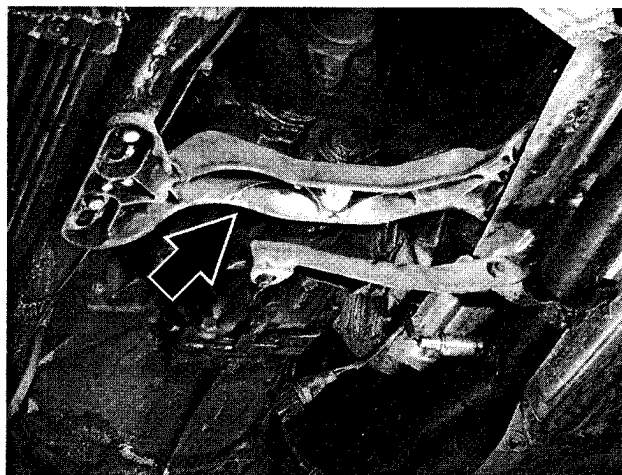

**Fig. 12.** Rear transmission crossmember (arrow).
11. Support transmission from below with jack. Remove rear support crossmember from transmission. See Fig. 12.